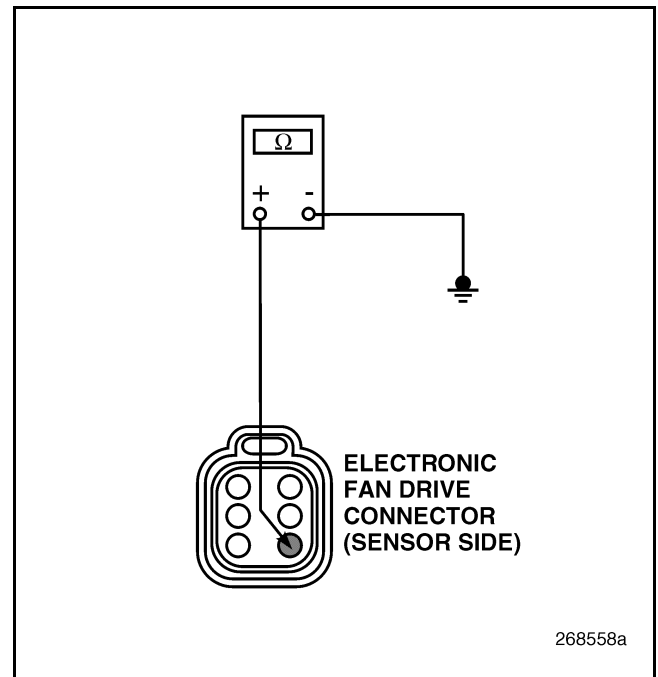

Figure 133
4. Check for continuity between the sensor side of electronic fan drive connector pin 3 and a good ground (see Figure 133).